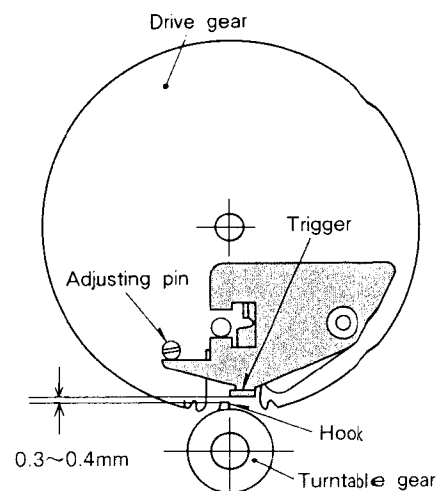

Fig. 7
- Adjust the gap between the turntable gear hook (Fig. 7) and the ratchet trigger for 0.3–0.4 mm (0.012–0.015 in.) by turning the adjusting pin.